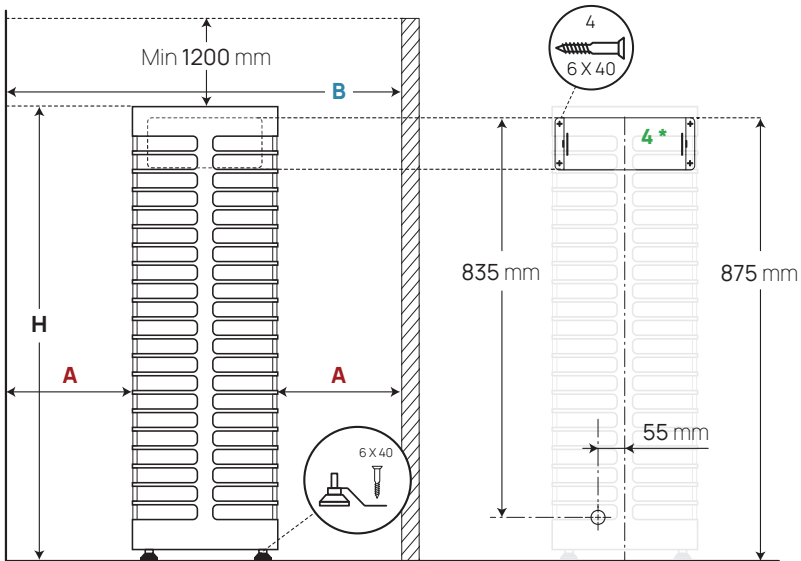

Figure 1 Positioning of the heater
- Are minimal safety distances ensured at the installation site of the heater? Minimal safety distances between the sauna room's ceiling and walls in view of installing the electric heater have been provided in **Table 1** and **Figure 1**.
- **HUUM STEEL 6, 9 and 11 models** are attached to the floor using the included brackets. Install the bracket to the heater leg as shown in **Figure 1** and fix it with a screw corresponding to the construction of your floor (recommended min. 6 x 40mm).
- Attach **HUUM STEEL Mini 4** to the wall of the sauna room using the wall mounting plate included in the package. See **Figure 1**.